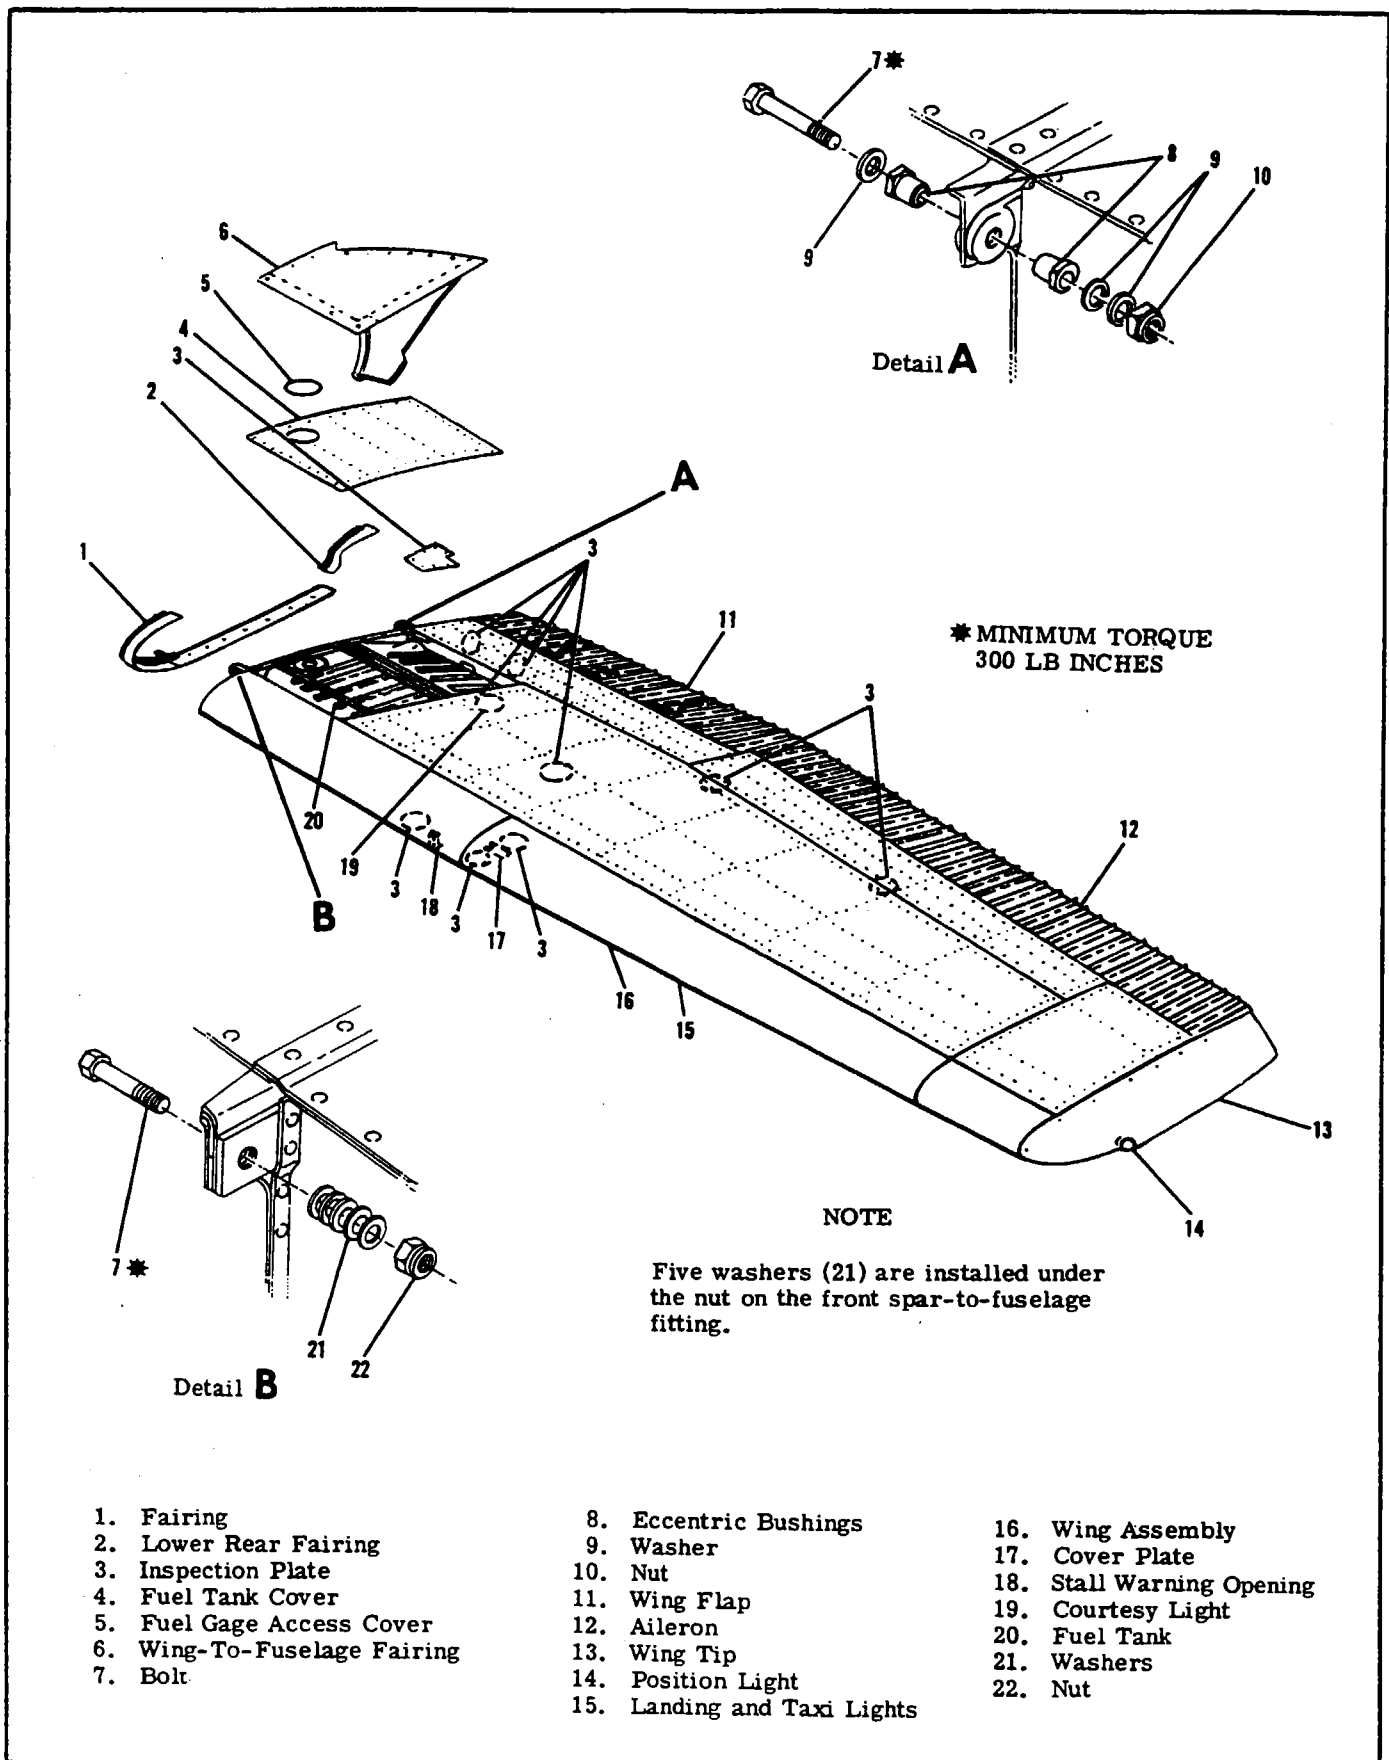

Figure 4-1. Wing Installation
4-2. WINGS. (Refer to figure 4-1.)
- i. Mark position of wing attachment eccentric bushings (refer to figure 4-1); these bushings are used to rig out "wing heaviness".
4-7. ADJUSTMENT (CORRECTING "WING-HEAVY" CONDITION. (See figure 4-1.) If considerable control wheel pressure is required to keep the wings level in normal flight, a wing-heavy condition exists.